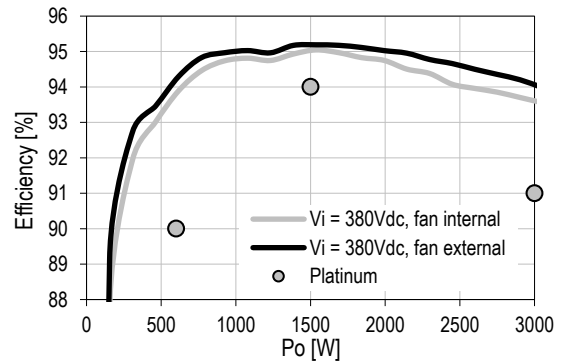

Figure 3 - DC Input Efficiency vs. load current (ratio metric loading)
*Figure 3* shows efficiency when input voltage is supplied from a high voltage DC source.